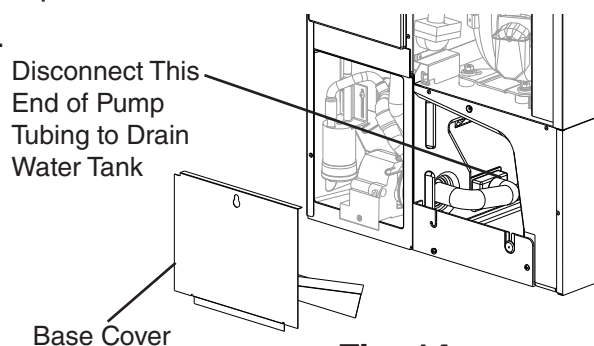

Fig. 14
- 3) Drain the water tank. Remove the base cover, then disconnect one end of the pump tubing to drain the water tank. See Fig. 14. After the water tank has drained, reconnect the pump tubing.